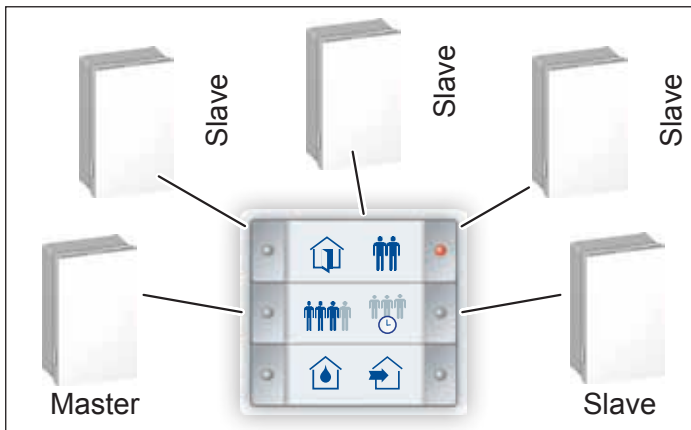

Fig. 32: Connecting the ventilation units in a star configuration
- If possible, the control cables should be arranged and connected in a star configuration (see Fig. 32) from the ventilation units to the InControl pushbutton sensor.